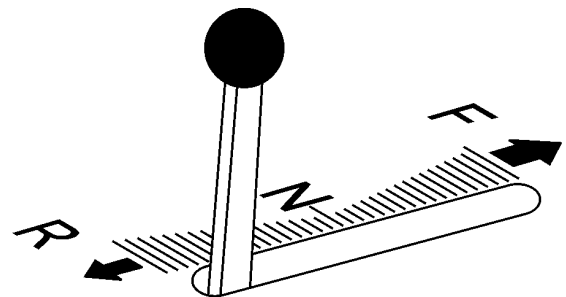

Figure 30. Travel Lever (Reverse Position)
4. When reverse movement is required, move the travel lever towards the **REVERSE** position (Figure 30). Placing the travel lever fully in reverse will move the saw backwards at its maximum reverse speed.